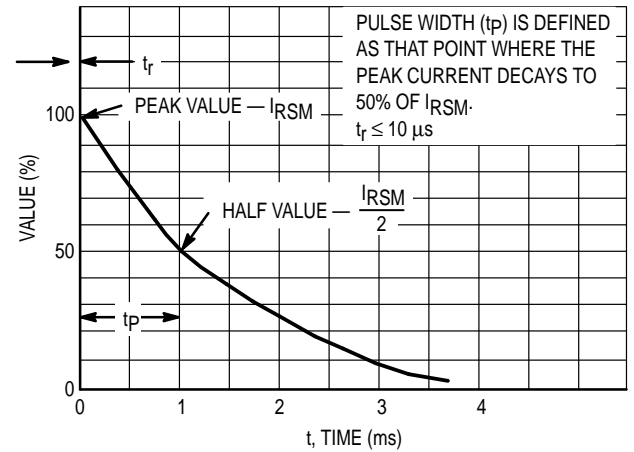

Figure 5. Pulse Waveform
1. Non-repetitive current pulse per Figure 5 and derate above TA = 25°C per Figure 6.
(5) Surge current waveform per Figure 5 and derate per Figure 6.